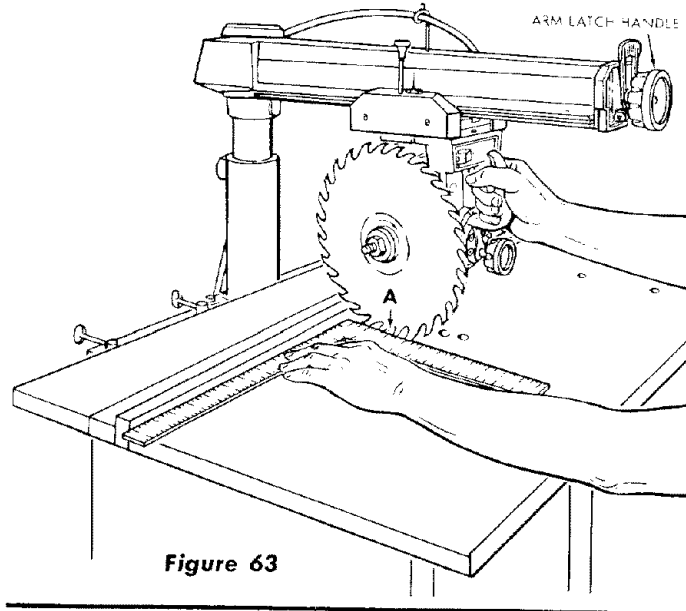

Figure 63
- (2) Rotate the arm latch handle (figure 63) one-quarter turn counterclockwise but do not pull it out.
- (4) Move radial arm slightly in the proper direction to make saw tooth ("A", figure 63) follow edge of square when the saw blade is moved in and out in a "cross-cut" manner.
- (5) Re-tighten the hex-head screws inside radial arm then tighten the arm latch handle (figure 63.)
- (6) Recheck travel of blade tooth ("A") with the square (figure 63), to make sure that tightening the screws did not affect the adjustment.
- (7) After the crosscut has been accurately squared, install the radial arm cap with two 1/4-28 x 1-3/4-inch screws and 1/4-inch lockwashers. (The cap has elongated holes to permit final positioning, therefore, leave the screws loose enough to permit the cap to "shift".)
- (8) Position the cap to align the "O" mark with the radial arm indicator and tighten the two screws.